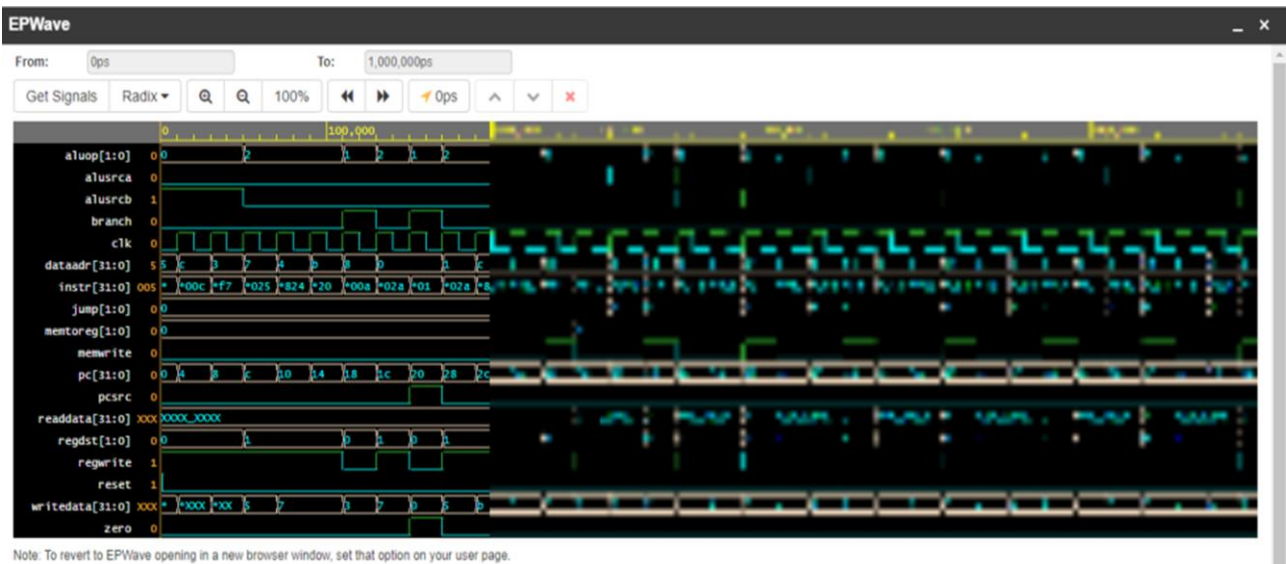

Figure 2: Example Waveform
e) [10 Points] Now make a SystemVerilog testbench file on EDAPlayground and simulate your MIPS-lite processor executing the test program (Refer to *How to Visualize Waveform in EdaPlayground*). Do not change the instructions in the imem module use it as is. Study the generated waveform. Find each instruction, and understand its values. **Take a screenshot of the waveform and paste it to the report.** Your waveform should be similar to the below image (see Figure 2, some part of the image is obfuscated intentionally). Make sure that your output shows the exact same variables. Be aware that if you run the “Complete MIPS Model.txt” without implementing “jr” instruction you will see continuous X values towards the end.